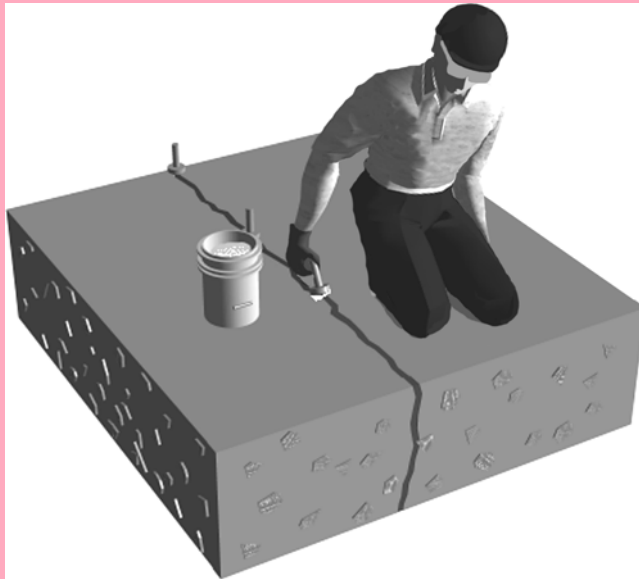

Fig. 2—Installation of entry ports.
1. Port installation (see Fig. 2).